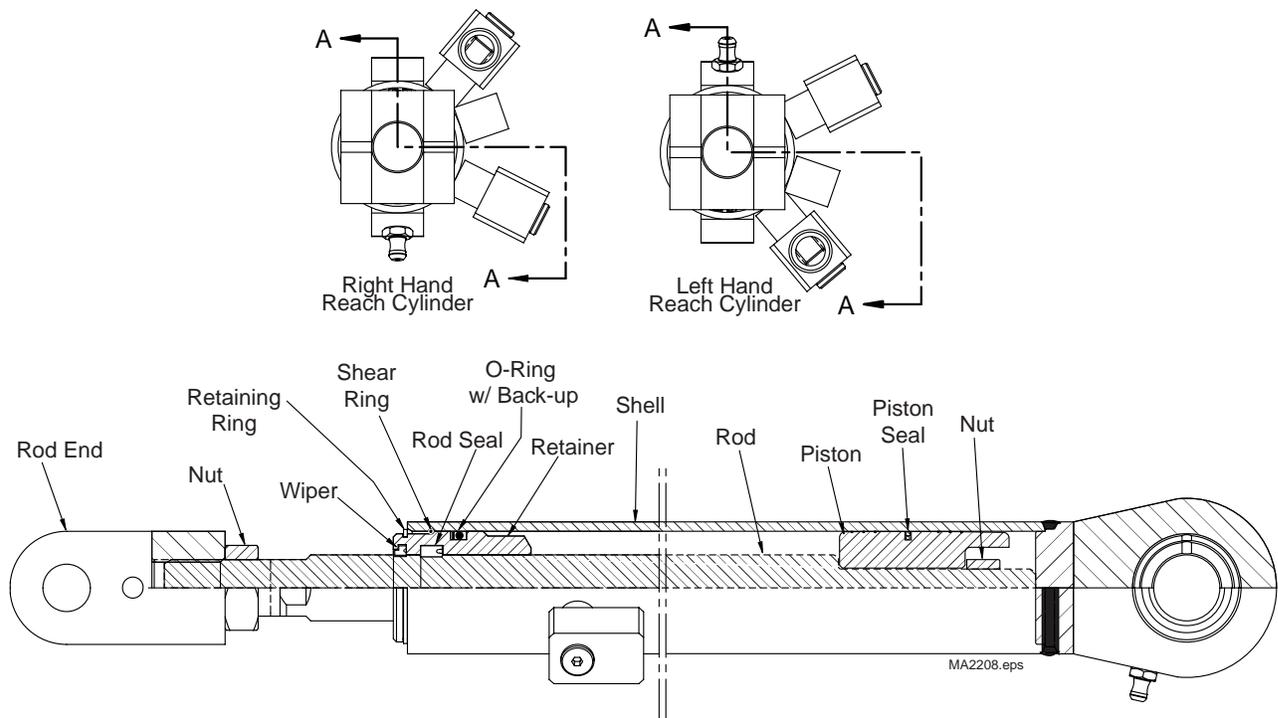

Figure 77A Typical Illustration
2. Lubricate and install the energizer ring into the groove in the piston. Refer to figure 77A.